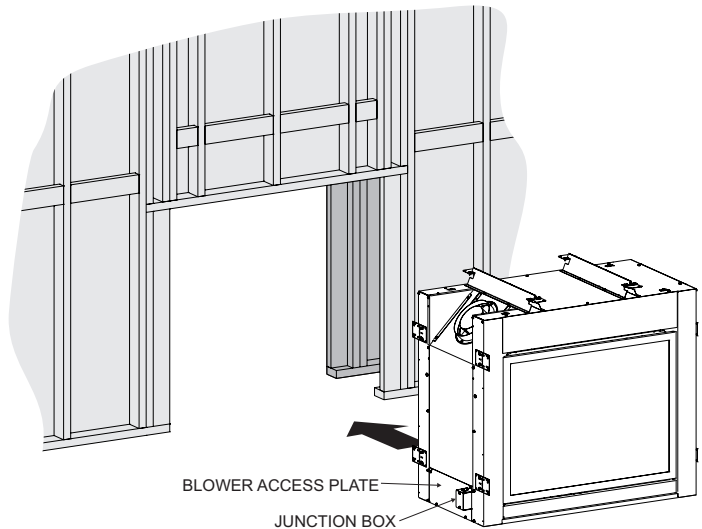

Figure 23
3. After the fireplace has been properly positioned inside the frame work, or the frame work has been built around the fireplace, the nailing flanges shall be bent 90 degrees and the fireplace should be attached to the frame work using 24 (SP) or 18 (PP) drywall screws. Temporarily remove blower access plate and tuck junction box inside fireplace before setting in place. **See Figure 23.**